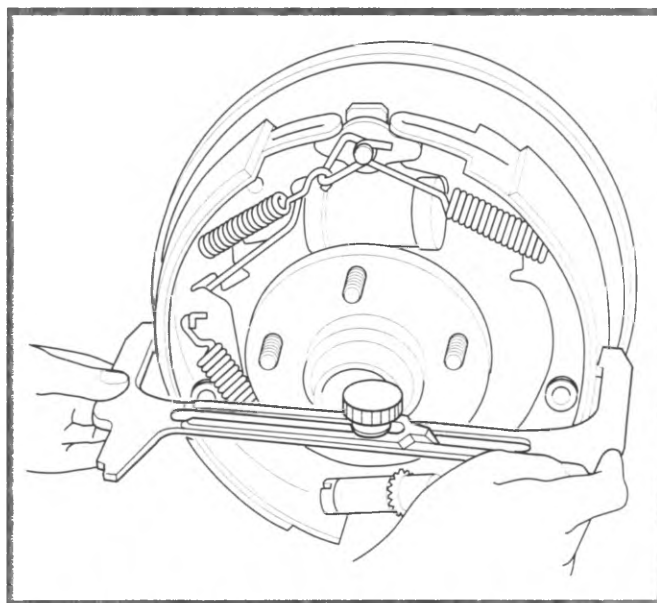

Figure 5-13, Setting Brake Shoes to Tool
2. Position the J 21177-1A over the primary and secondary shoes and linings (13 and 14) (figure 5-13).
3. Turn the star wheel on the adjusting screw (19) until the primary and secondary shoes and linings contact J 21177-1A.